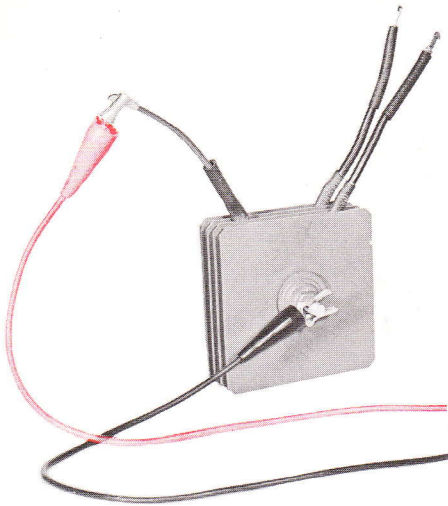

Figure 28
3. **Connect small red test lead to positive lead on rectifiers. Figure 28.**
4. Connect small black test lead to ground stud or lead on rectifier. Figure 28.